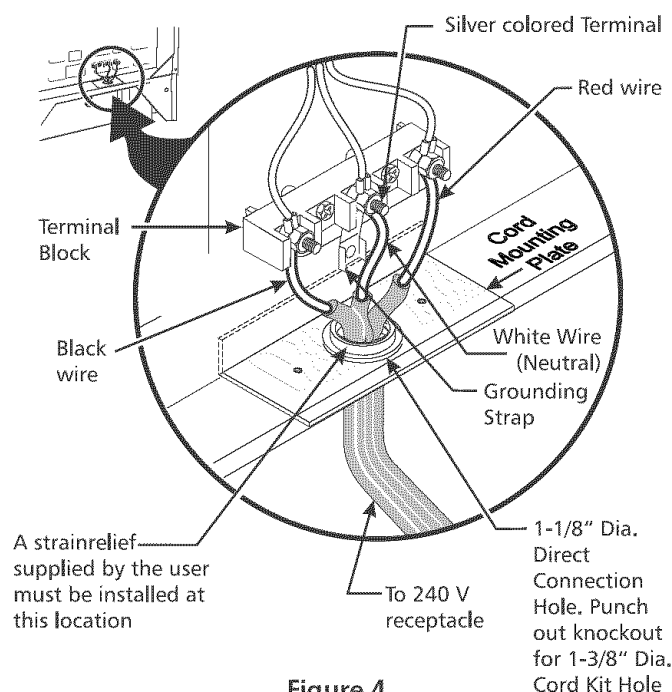

Figure 4
NOTE: Electric Slide-in Range is shipped from factory with 1 1/8" (2.9 cm) dia. hole as shown on figure 4. If a larger hole is required, punch out the knockout.
(The 3-conductor cord or cable must be replaced with a 4-conductor cord or cable where grounding through the neutral conductor is prohibited in new installations, mobile homes, recreational vehicles or in other areas where local codes do not permit neutral grounding) If local codes permit connection of the frame grounding conductor to the neutral wire of the copper power supply cord (see Figure 4):
4. Replace the 3 nuts on the terminal block. (See Figure 4)